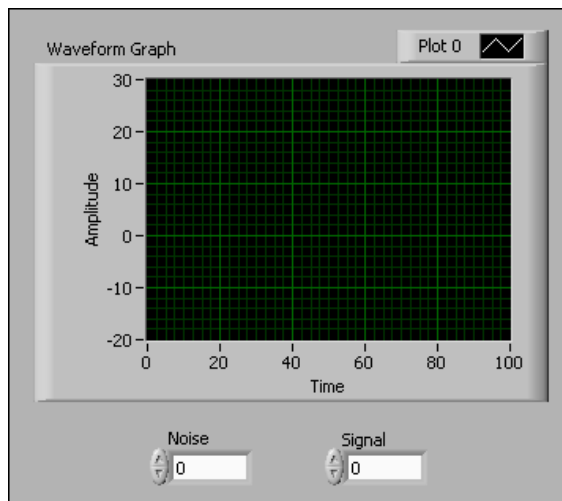

Figure 8. Designing the Front Panel
Note Refer to Figure 8 to see the completed front panel for this tutorial.
2. Change the label of one numeric control to **Noise** and the label of the other numeric control to **Signal** as shown in Figure 8.